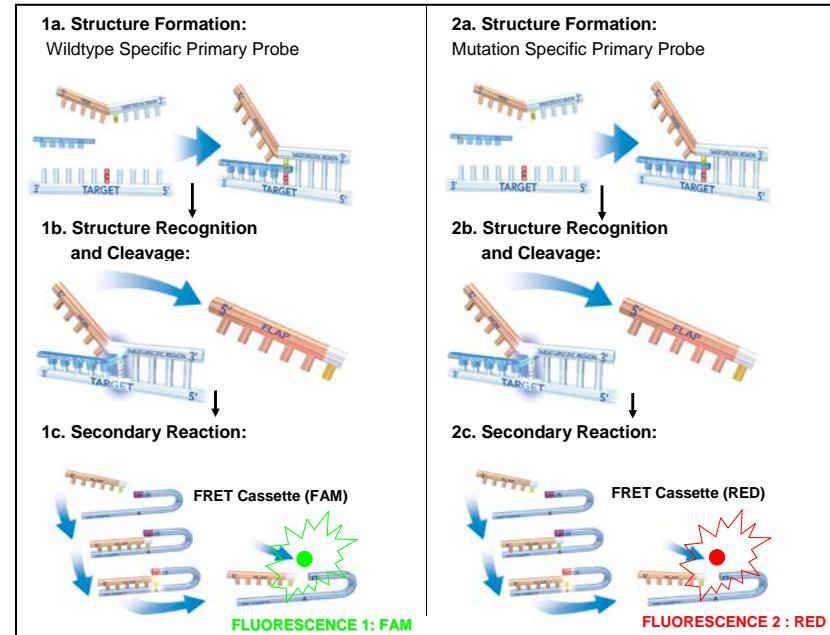

Figure 1: Invader® Signal Generation Phase
The Invader® MTHFR 1298 test utilizes the Invader Plus® chemistry with DNA isolated from human whole blood for the detection of the targeted sequence polymorphism. Specifically, the Invader Plus® chemistry utilizes a single-tube, two phase reaction, including target amplification and signal generation (mediated by Invader® chemistry). Invader Plus® reaction mixes are assembled by combining the MTHFR 1298 Oligo Mix, Universal Enzyme Mix, and Universal Buffer. In a 96-well plate, reaction mix is combined with purified genomic DNA samples, as well as four (4) controls included with the test. The No DNA Control is used by the interpretive software to set the "noise" component of the run for "signal-to-noise" calculations. The genotype-specific controls (WT, HET, MUT) ensure reagents were assembled correctly and perform according to the specifications. The 96-well plate is transferred to an appropriately programmed thermal cycler for target amplification and signal generation. In the target amplification phase of the reaction, amplification is carried out using "two-step" cycling conditions (i.e., denaturation & annealing/extension). Following amplification, Taq polymerase is inactivated by a 10 minute incubation at 99°C, after which the thermal cycler proceeds to 63°C to initiate the signal generation (Invader®) phase of the reaction (see Figure 1).
During the signal generation phase, a discriminatory Primary Probe transiently hybridizes to the amplified target sequence along with an Invader® oligonucleotide, to form an overlapping structure. The 5'-end of the Primary Probe includes a 5'-flap that does not hybridize to the target DNA. The 3'-nucleotide of the bound Invader® oligonucleotide overlaps the Primary Probe, and does not hybridize to the target DNA. The Cleavase® enzyme recognizes this overlapping structure and cleaves off the unpaired 5'-flap of the Primary Probe, releasing it as a target-specific product. The Primary Probe is designed to have a melting temperature aligned with the Invader® reaction temperature so that under the isothermal reaction conditions (~63°C) the Primary Probes cycle on and off the target DNA. This allows for multiple rounds of Primary Probe cleavage for each DNA target resulting in an accumulation of the number of released 5'-flaps. The initial reaction, the released 5'-flap transiently hybridizes with a corresponding FRET cassette forming an overlapping structure that is recognized and the fluorophore is cleaved from the FRET cassette by the Cleavase® enzyme. The 5'-flap is designed to have a melting temperature aligned with the Invader® reaction temperature, so that the 5'-flaps cycle on and off of the corresponding FRET cassettes. This allows for multiple rounds of FRET cassette cleavage for each 5'-flap, and an accumulation of released fluorophore. When the FRET cassette is cleaved, a fluorophore and quencher are separated, generating detectable fluorescence signal. The format uses two different discriminatory Primary Probes, one for the mutant allele and one for the wild type allele (Figure 1). Each Primary Probe is assigned a unique 5'-flap, and distinct FRET cassette, with a spectrally distinct fluorophore. By design, the released 5'-flaps will bind only to their respective FRET cassettes to generate a target-specific signal, linking the wild type allele with one fluorophore (Fluorescence 1: FAM) and the mutant allele with the second fluorophore (Fluorescence 2: RED).